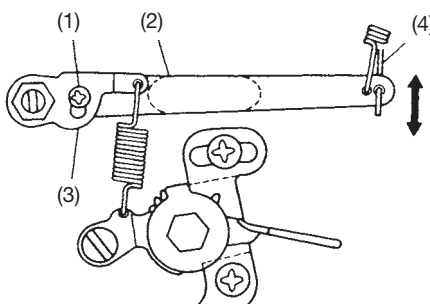

Fig. 12B
- 1) First with the engine off, loosen screw A (1). Pull up governor outer lever (2) and push down governor spring lever (3), then at the same time retighten the screw A (Fig. 12B)